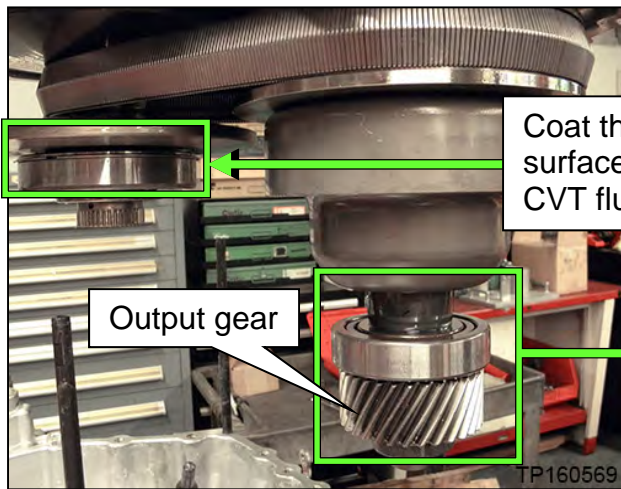
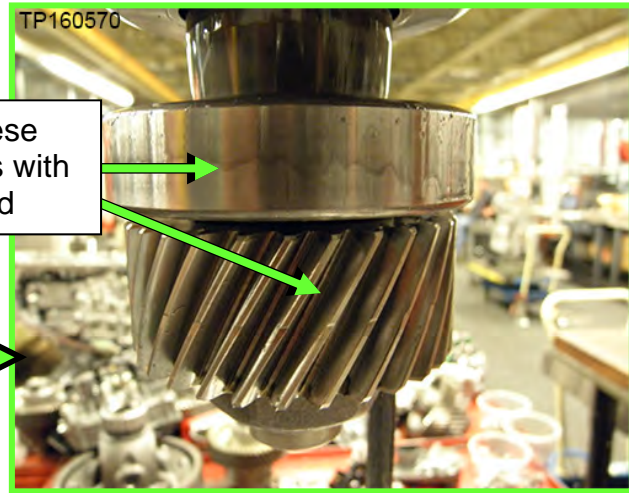

Figure 93
Figure 94
72. Coat the primary pulley bearing, secondary pulley gear teeth, and the secondary bearing with CVT fluid prior to installation (Figure 93 and Figure 94).